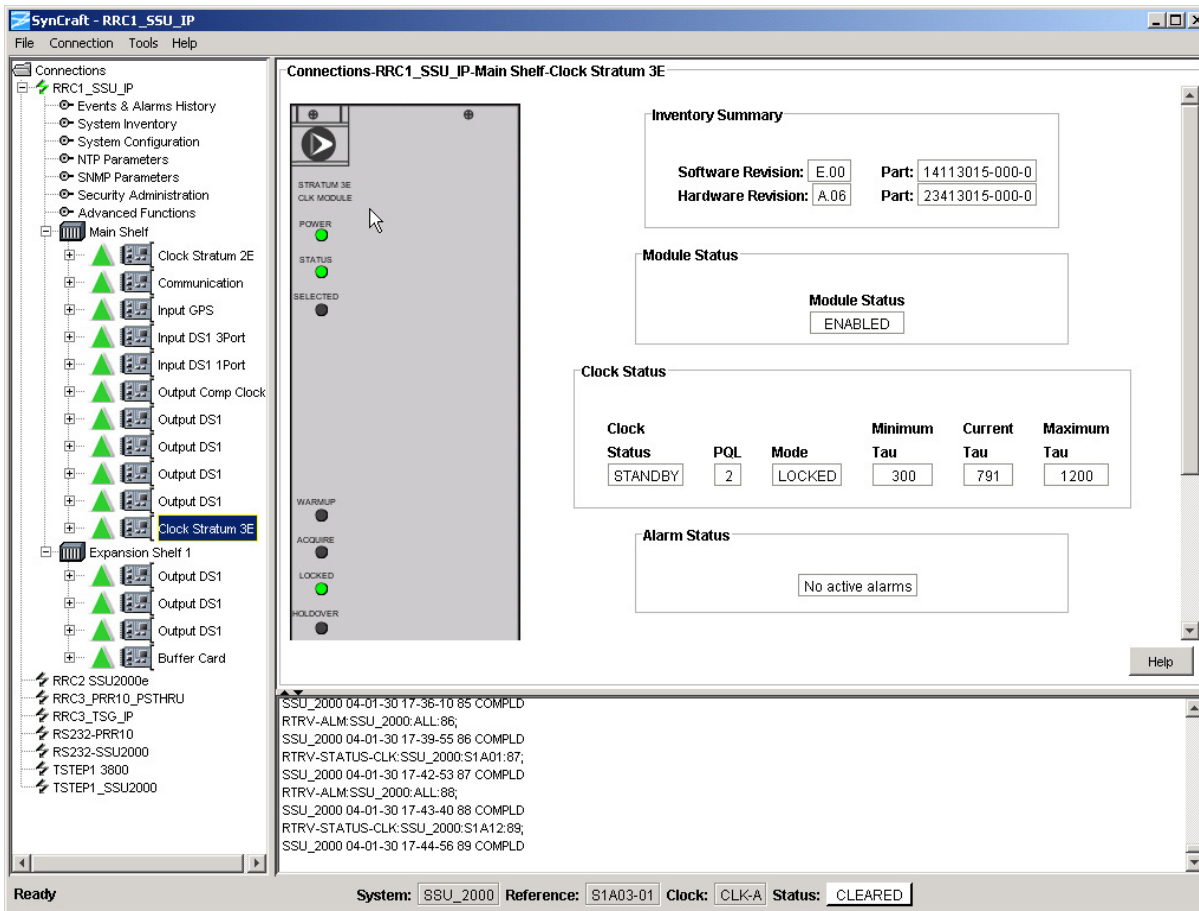

Figure H-9. Stratum 3E Clock Module in SynCraft Window
6. Select the Main Shelf, and then select the first Clock module. A screen similar to the one shown in Figure H-9 appears.